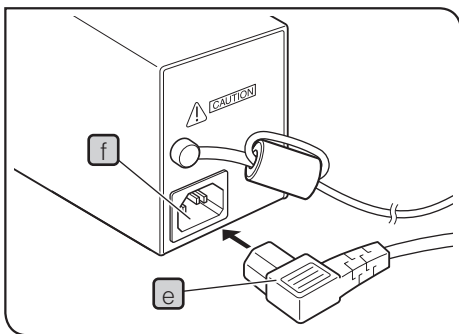

Fig.48
Operation using the TL4 power supply unit (Fig.48)
- 1 Insert the connector **e** of the power cord firmly into the input connector **f** of the TL4. (Fig.48)